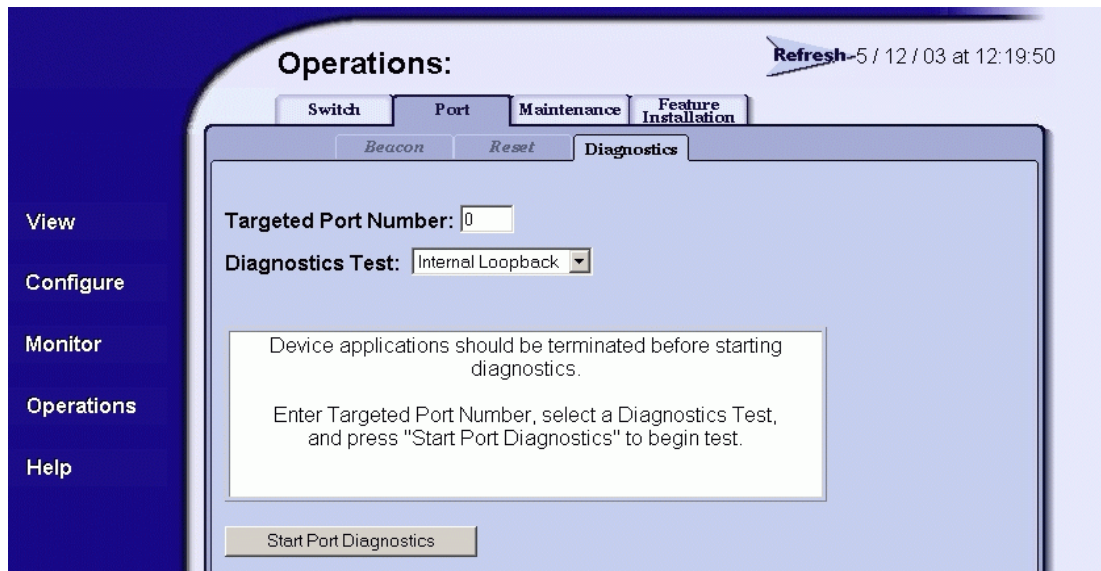

Figure 4-14 Operations Panel (Port Page with Diagnostics Tab)
3. Click the *Port* and *Diagnostics* tabs. The *Port* page displays with the *Diagnostics* tab selected (Figure 4-14).
5. Click the *Port* and *Diagnostics* tabs. The *Port* page displays with the *Diagnostics* tab selected (Figure 4-14 on page 4-20).